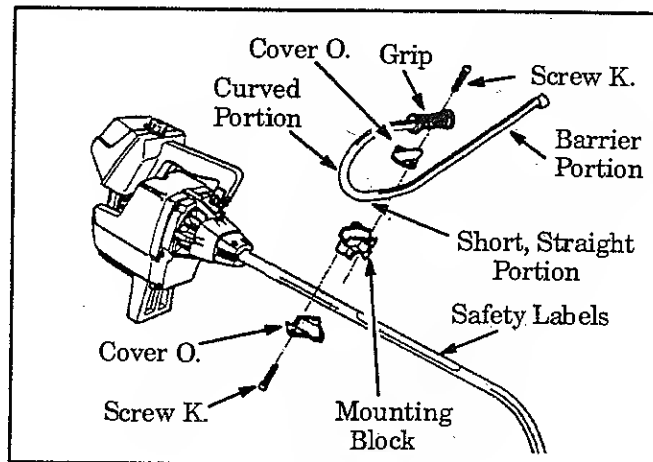

Figure 5
1. Position the mounting block on the tube above the arrow on the safety label. Figure 5.
2. Place one cover "O." under the tube. Figure 5. Attach the cover to the mounting block with 2 screws "K."; finger tighten only.
3. Align the handlebar with the straight barrier portion to the left and the curved portion to the right as shown in Figure 5.
5. Place the other cover "O." on top of the tube. Figure 5. Attach the cover to the mounting block with 2 screws "K."; finger tighten only.
The barrier portion of the handlebar must be installed as shown in Figure 5 to provide a barrier between the operator and the spinning blade.